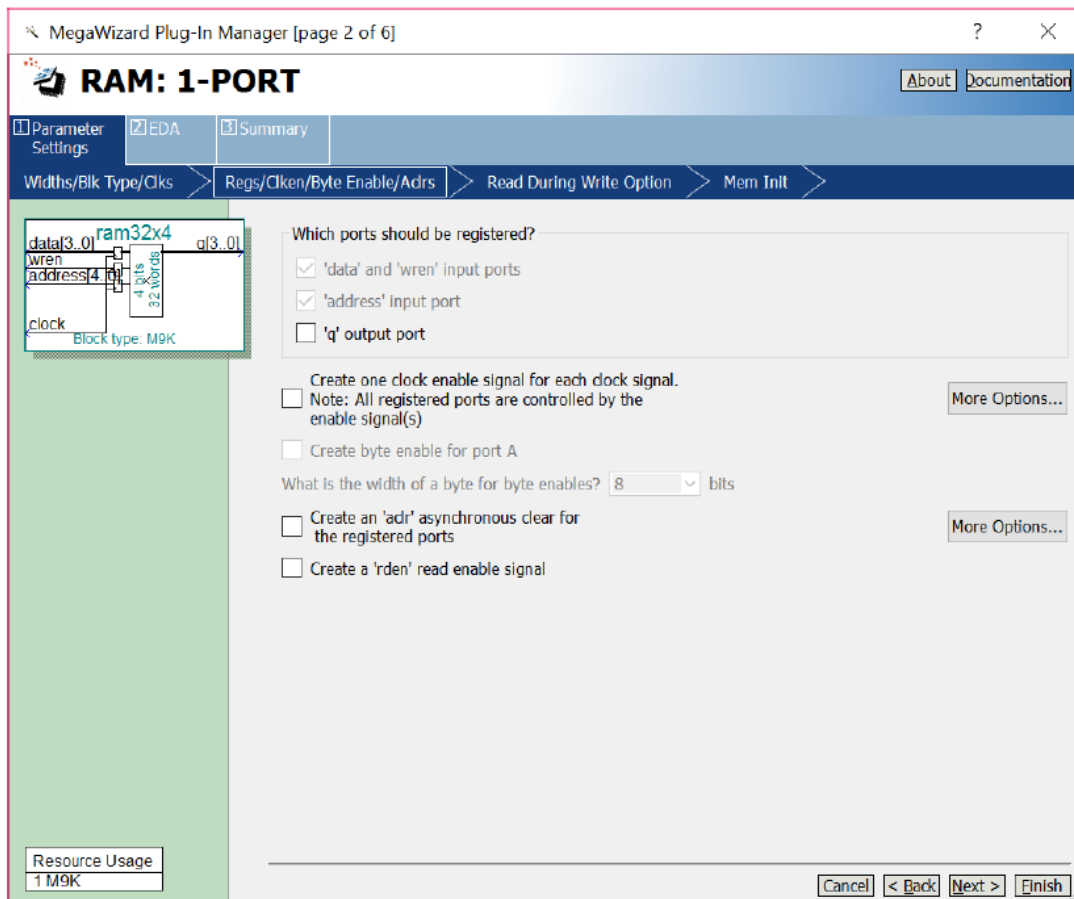

Figure 3 Configuring the Input and Outputs
3. Select M9K as the memory block type. Also on this screen accept the default setting to use a single clock for the memory's registers, and then advance to the page shown in Figure 3. On this page deselect the setting called 'q' output port under the category Which ports should be registered?. This setting creates a RAM module that matches the structure in Figure 1b, with registered input ports and unregistered output ports. Accept defaults for the rest of the settings in the Wizard, and click the Finish button to exit from this tool. Examine the ram32x4.vhd VHDL file which defines the following subcircuit: